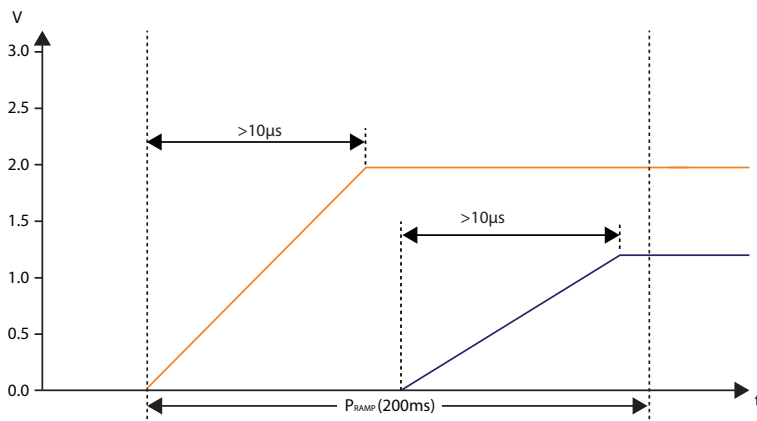

Figure 3-1: Power Ramp Up Time P_{RAMP}
2. The time from the first power supply starting point to the last power supply end point must be less than 200ms. See Figure 3-1: Power Ramp Up Time P_{RAMP}.